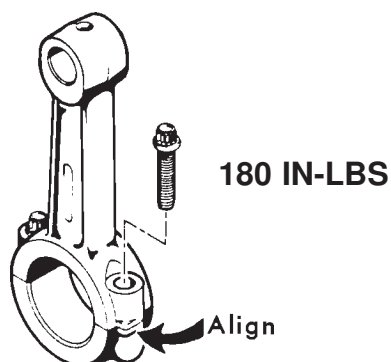

FIGURE 5. ROD ALIGNMENT
- XV. Install the connecting rods. Thoroughly oil the crankshaft and rods before installing them. When installing the rods, make certain that the tabs are aligned on the same side of the rod, see Fig. 5.